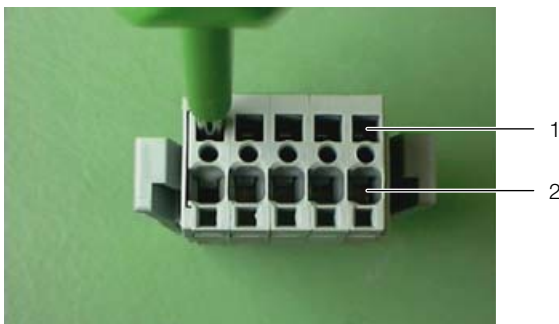

Fig. 33: Connector – rear
- Insert a screwdriver into an activation opening (Fig. 33, item 1) and open the screw terminal clamping point of the conductor entry (Fig. 33, item 2).